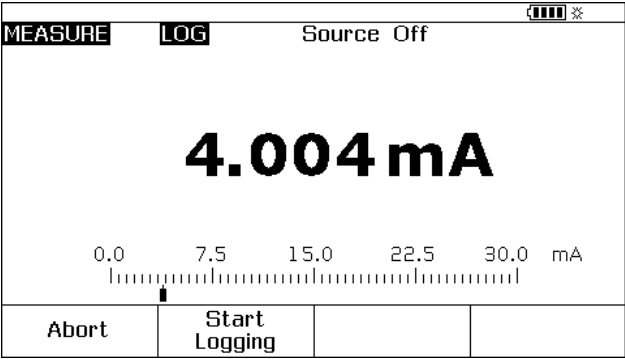

Figure 41. Start Logging Screen
- 9. Push the **Done** softkey. The display changes to the screen shown in Figure 41.